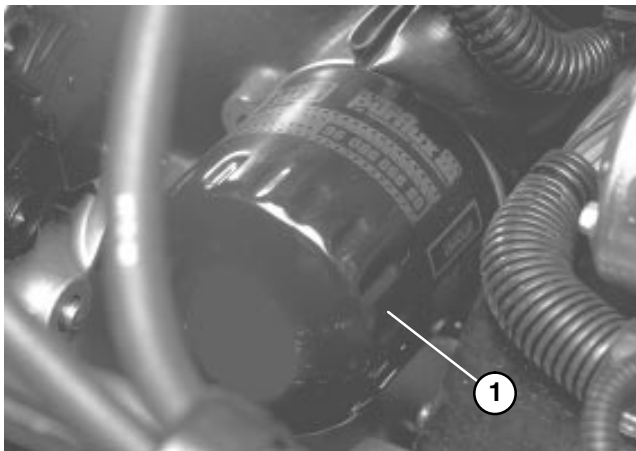

Figure 45
2. Remove oil filter (Fig. 45). Apply a light coat of clean oil to the new filter seal before screwing it on. DO NOT OVER–TIGHTEN.